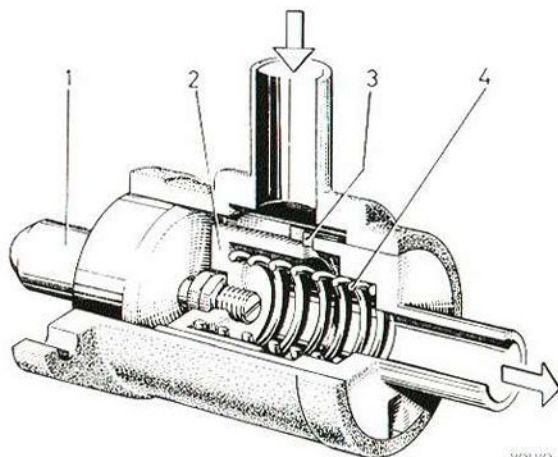

Fig. 2-168. Auxiliary air regulator
At cold start, the auxiliary air regulator opens (how much will depend on the temperature) and admits additional air into the inlet duct. Gradually, as the engine heats up, the capillary tube (1, Fig. 2-168) expands and presses back the regulator slide (2) which, at  $+60^{\circ}\text{C}$  ( $140^{\circ}\text{F}$ ), completely shuts off the through-flow area.